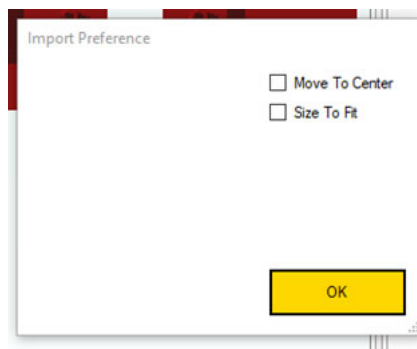

Figure 232: Import Preference Options
5. Select the desired Import Preference options. See Figure 232 (below).